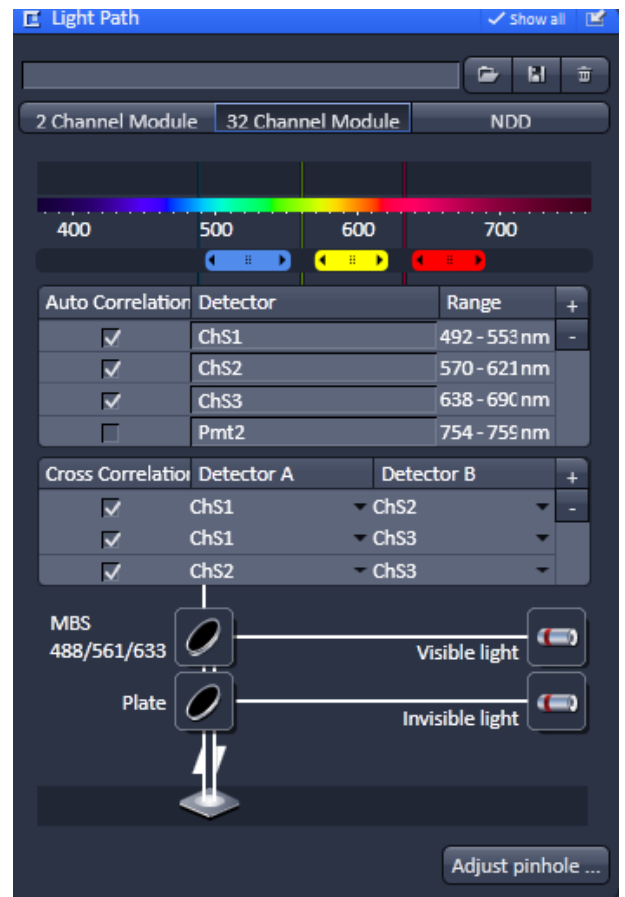

Fig. 239 System Configuration tab - Light Path tool opened for the Quasar of LSM 780
- Click on the MBS icon to open a list of dichroics (Fig. 239).